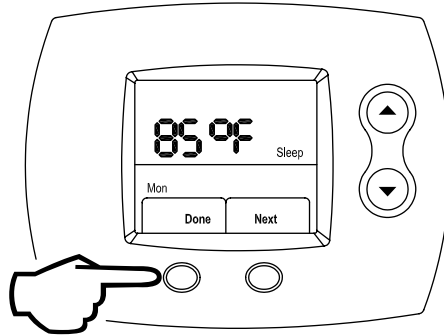

Figure 102
Step 28: When you are finished editing the Setback schedule, press the **LEFT** (Done) button to exit the Schedule editing mode, as shown in Figure 102. You will now return to the HOME screen.